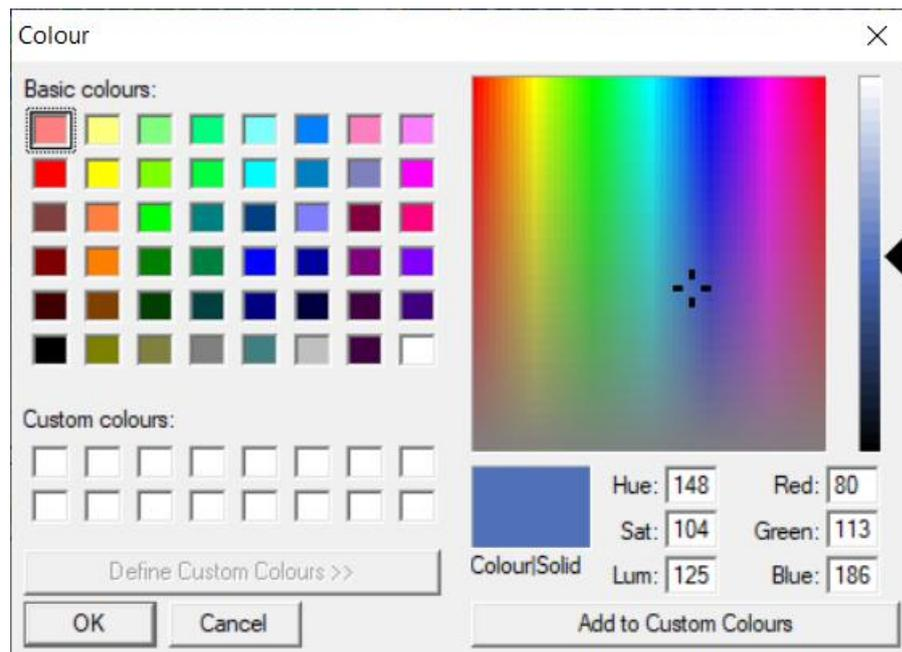

Figure 4-150C
- ① Change: Set the grouping colors (Figure 4-150C).